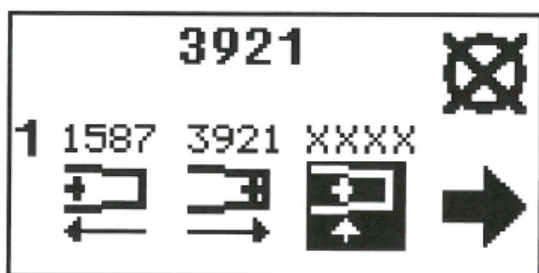

Fig. 4: Position Calibration Screen
- Press the Enter button () to accept the new value or press the Abort/Cancel button () to keep the previous value. The screen should appear similar to FIG. 4 when done.